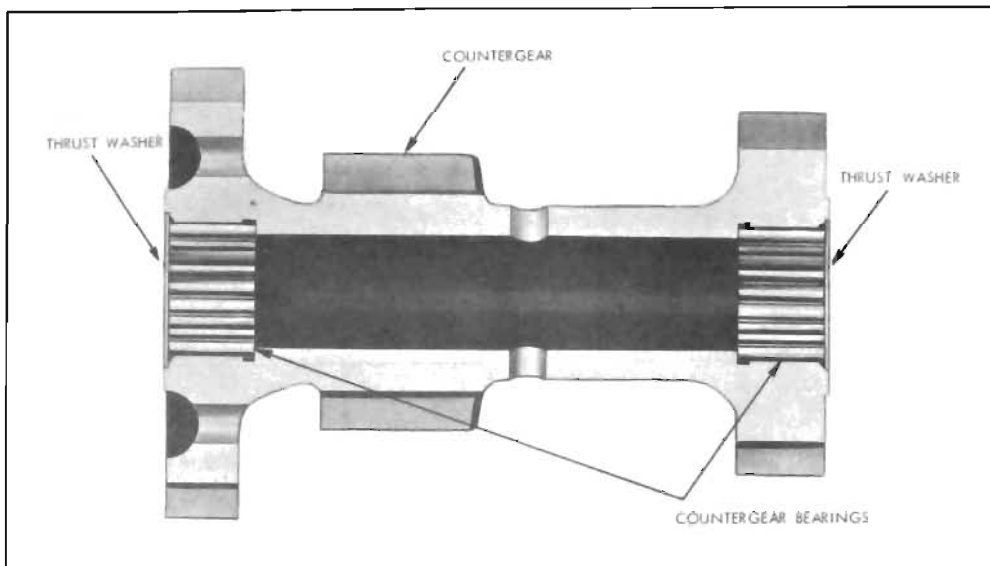

Figure 4-28—Counter gear and Bearings
6. Place some cup grease in the roller bearing area on each end of counter gear. Insert Tool J-5777 in counter gear. Install 25 roller bearings in each end. Apply grease to bearing thrust washers; place one of each at each end of counter gear. See Figure 4-28.